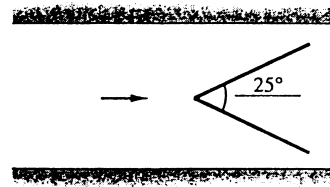

Fig. P10.50
**10.50** A pencil point piercing the surface of a rectangular channel flow creates a  $25^\circ$  half-angle wedgelike wave, as in Fig. P10.50. If the channel surface is painted steel and the depth is 35 cm, determine (a) the Froude no.; (b) the critical depth; and (c) the critical slope.
**10.55** A trapezoidal channel resembles Fig. 10.7 with  $b = 1$  m and  $\theta = 50^\circ$ . The water depth is 2 m and  $Q = 32$  m3/s. If you stick your fingernail in the surface, as in Fig. P10.50, what half-angle wave might appear?